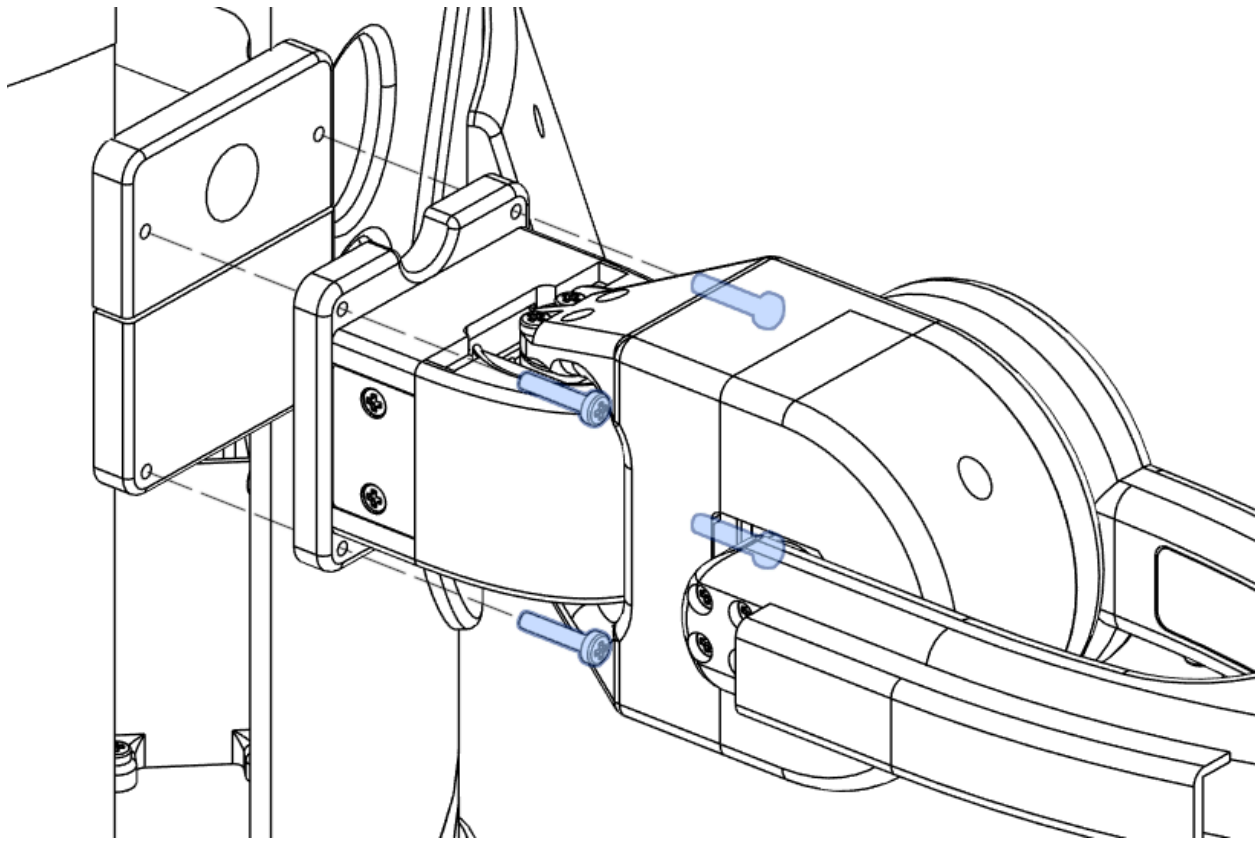
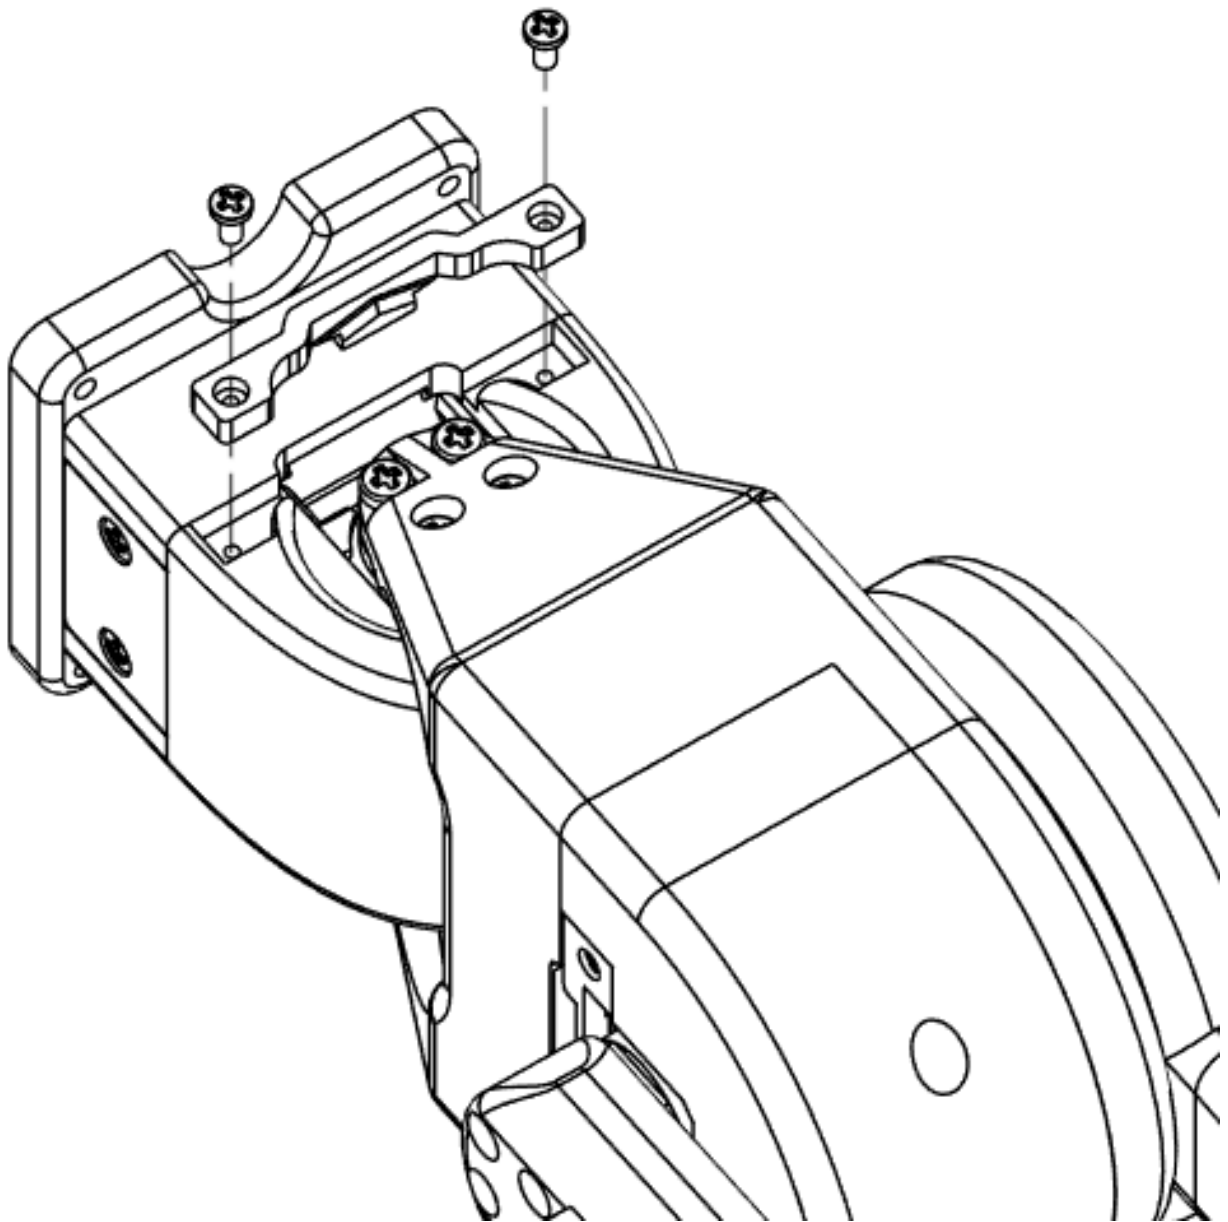

Figure 10.26 - Arm & Body Assembly
Figure 10.27 - Motor 1 Wire Clip Assembly
- 32.** Fasten Arm Base to the end of Linear Actuator Arm as shown in Figure 10.26
- a.** (4) M3x16mm
- 34.** Fasten Motor 1 Wire Clip to Motor 1 Support as shown in Figure 10.27
- a.** (2) M2x5mm
- b. NOTE:** Arm Wires are not shown in Figure 10.27